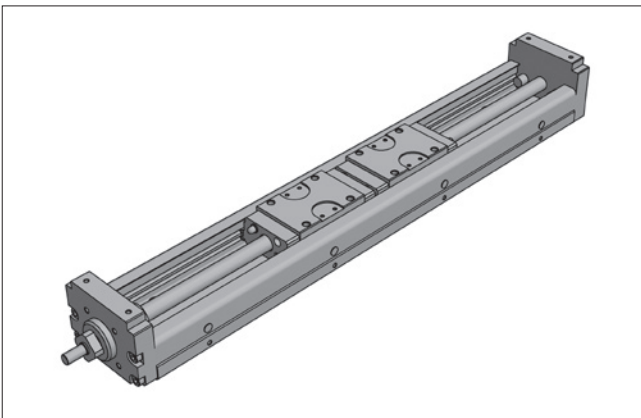

Figure 5.11 \_\_ AXBG – profile with carriages
- U - shaped steel profiles as base material with internal carriages (Figure 5.11)